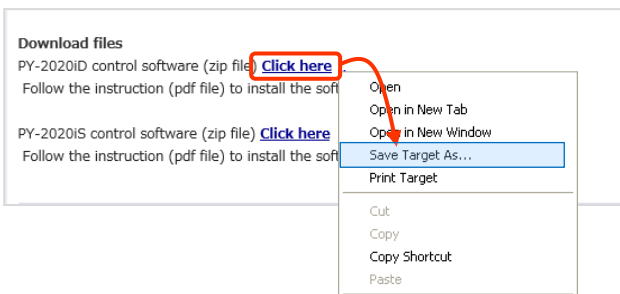

Fig. 4.1
- 4.1 Download PY-2020iD control software Ver. 3.04 from Frontier Labs webpage (<http://www.frontier-lab.com/english/product-support/>). Right-click the zip file in Fig. 4.1 framed in red, then choose “**Save Target As**”.